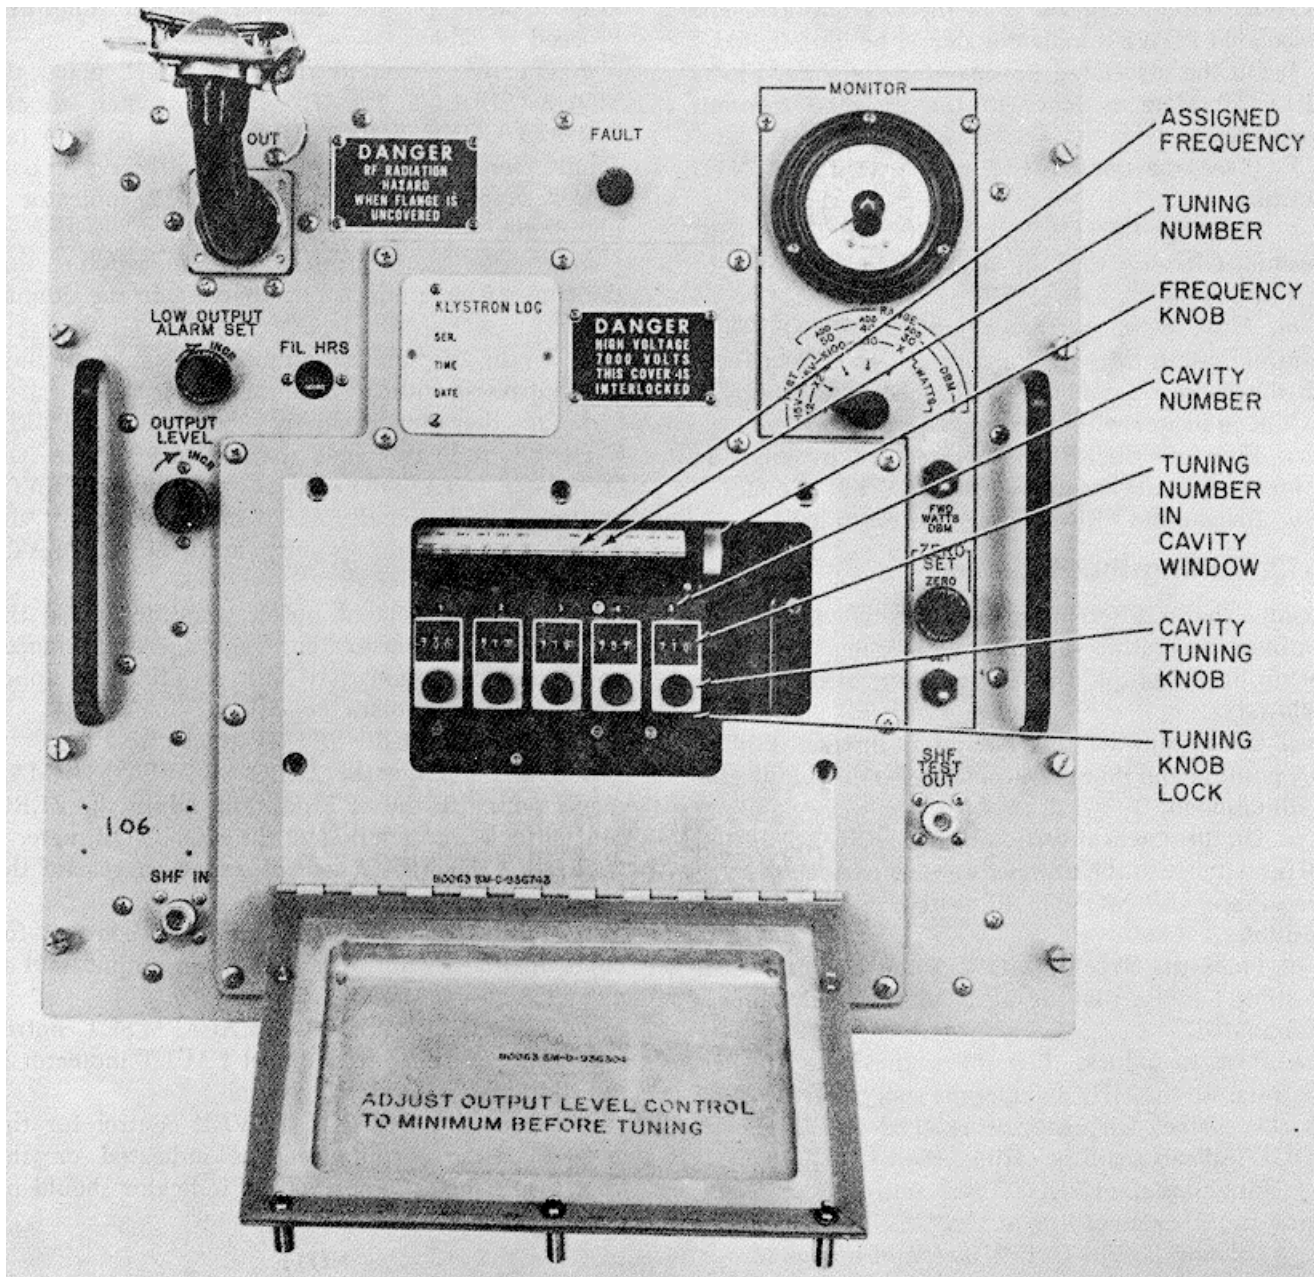

Figure 3-17. Klystron Frequency Chart and tuning Cavities.
d. Rotate the FREQ calibration chart knob until the assigned transmit frequency is registered along the window line (see fig. 3-17). For example, if the assigned transmit frequency is 8225.0 MHz rotate the knob until FREQ 8225 is aligned on the window's crossline.
f. See figure 3-17. Unlock the tuning knob for cavity 1 by pushing the tuning knob lock to the left. Rotate the cavity tuning knob to the assigned tuning number (715). Always approach this number from a clockwise direction and starting about 100 digits below it. For example, rotate the cavity tuning knob to 615 (from either direction) then rotate the knob clockwise up to 715. Lock the tuning knob for cavity 1.